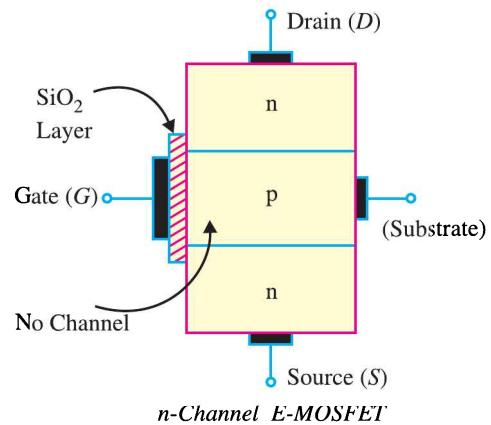

Fig. 19.44
2. E-MOSFET. Fig. 19.44 shows the constructional details of *n*-channel *E-MOSFET*. Its gate construction is similar to that of *D-MOSFET*. The *E-MOSFET* has no channel between source and drain unlike the *D-MOSFET*. Note that the substrate extends completely to the SiO_2 layer so that no channel exists. The *E-MOSFET* requires a proper gate voltage to *form a channel* (called induced channel). It is reminded that *E-MOSFET* can be operated *only* in enhancement mode. In short, the construction of *E-MOSFET* is quite similar to that of the *D-MOSFET* except for the absence of a channel between the drain and source terminals.